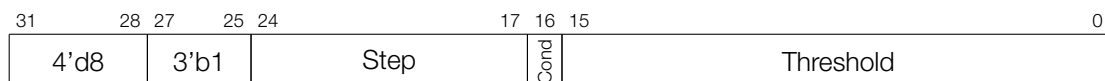

Figure 30-9. Instruction Type — JUMPR
**Operand Description** - see Figure 30-9